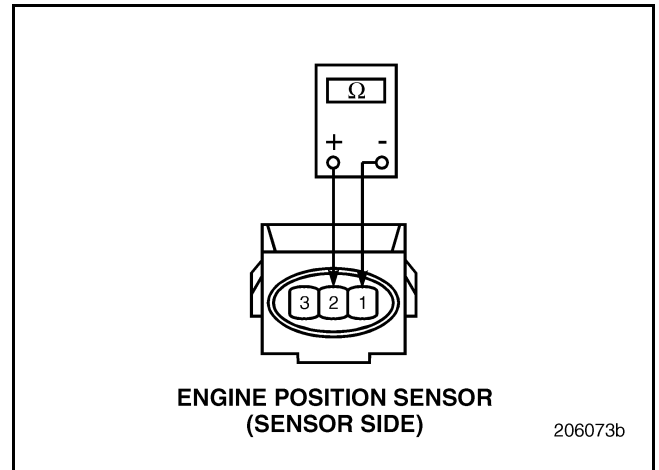

Figure 405
2. Disconnect the Engine Position (EP) Sensor.
3. Measure the resistance between terminals 1 and 2 on the Engine Position (EP) Sensor (see Figure 405).